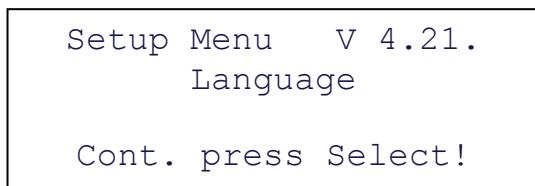

Fig. 5: Setup Menu
- The display will show the setup menu (see Fig. 5).